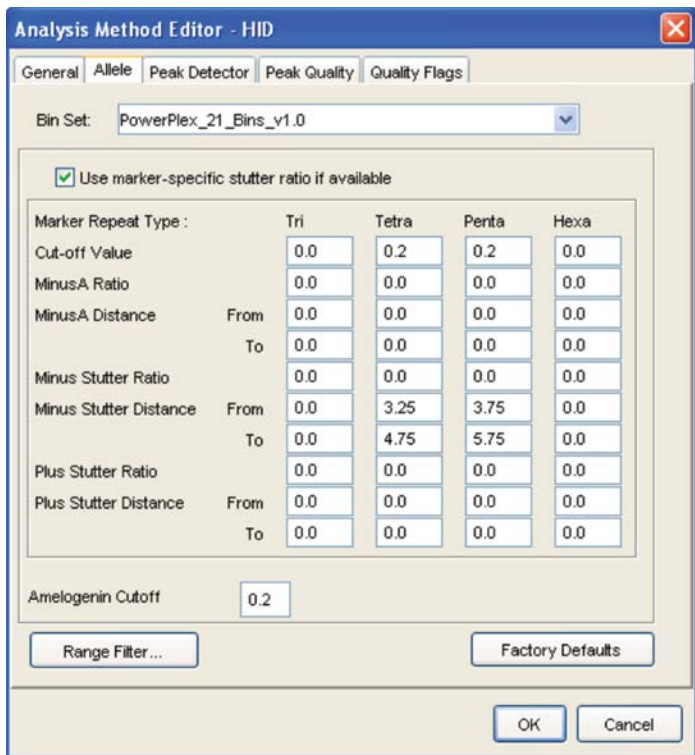

Figure 21. The GeneMapper® ID Allele tab with settings for using a 20% peak filter.
6. Select the Allele tab (Figure 21).
- Enter the values shown in Figure 21 for proper filtering of peaks when using the PowerPlex® 21 System. For an explanation of the proper usage and effect of these settings, refer to the Applied Biosystems user bulletin titled “Installation Procedures and New Features for GeneMapper ID Software 3.2”.